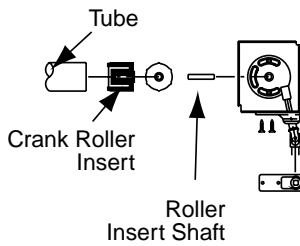

Figure 7
- 1 If the shade has a detachable crank handle, remove the universal joint and shaft assembly from the bottom of the end cap by removing 2 screws (Fig. 7). Save universal joint & screws.